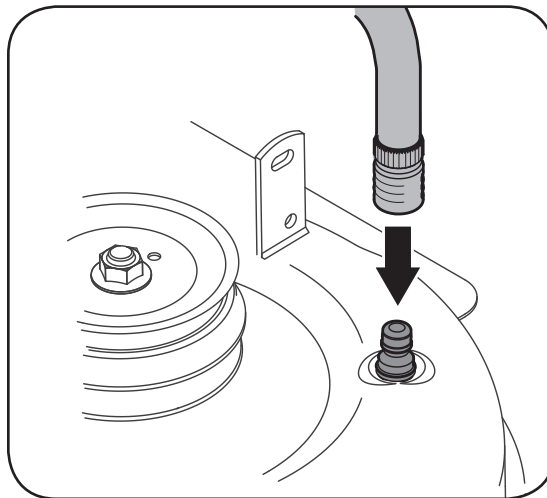

Figure 5-3
3. Attach the hose coupler to the water port on your decks surface. See Figure 5-3.